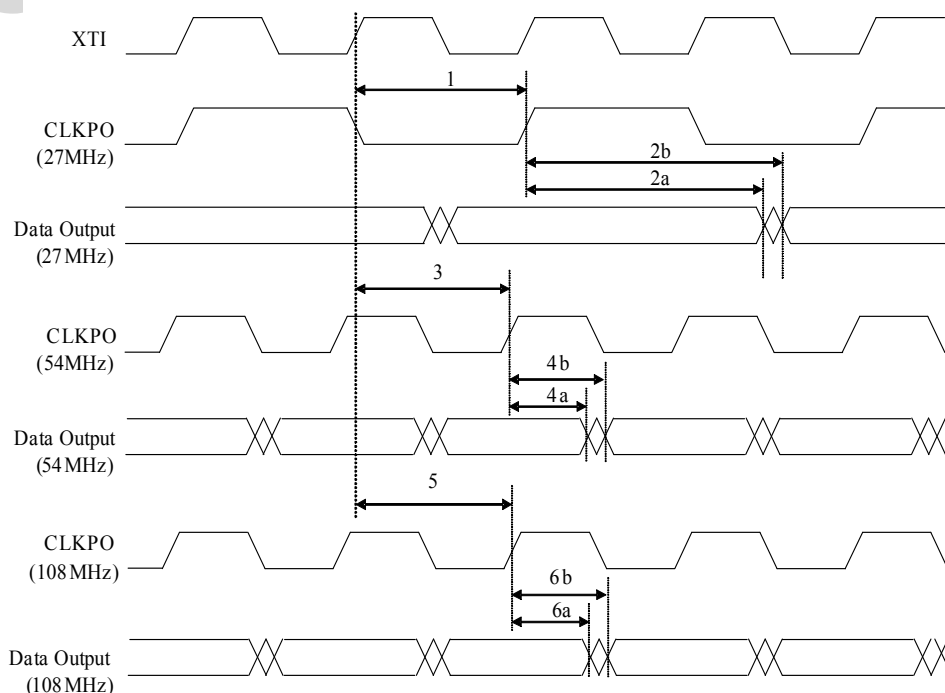

FIGURE 2. XTI AND VIDEO DATA TIMING DIAGRAM
6. CLKPOn timing is related with CLKPOn_DEL register value. The timing diagram in Figure 2 illustrates in the case that the CLKPOn_DEL is set to 0hex and CLKPOn_POL is set to 0. CLKNOn timing is almost inversed CLKPOn timing as default setting.